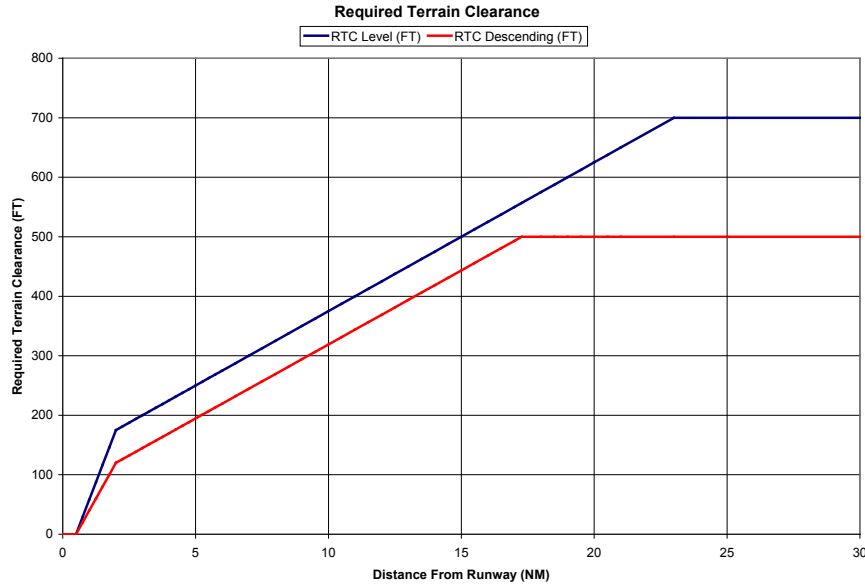

Figure 6-120 FLTA Minimum Terrain and Obstacle Values
**Reduced Required Terrain Clearance (RTC)** and **Reduced Required Obstacle Clearance (ROC)** alerts are issued when the aircraft flight path is above terrain, yet is projected to come within the minimum clearance values in Figure 6-120. When an RTC alert is issued, a potential impact point is displayed on the TAWS-B Page.
**Imminent Terrain Impact (ITI)** and **Imminent Obstacle Impact (IOI)** alerts are issued when the aircraft is below the elevation of a terrain or obstacle cell in the aircraft's projected path. ITI and IOI alerts are accompanied by a potential impact point displayed on the TAWS-B Page. The alert is annunciated when the projected vertical flight path is calculated to come within minimum clearance altitudes in Figure 6-120.